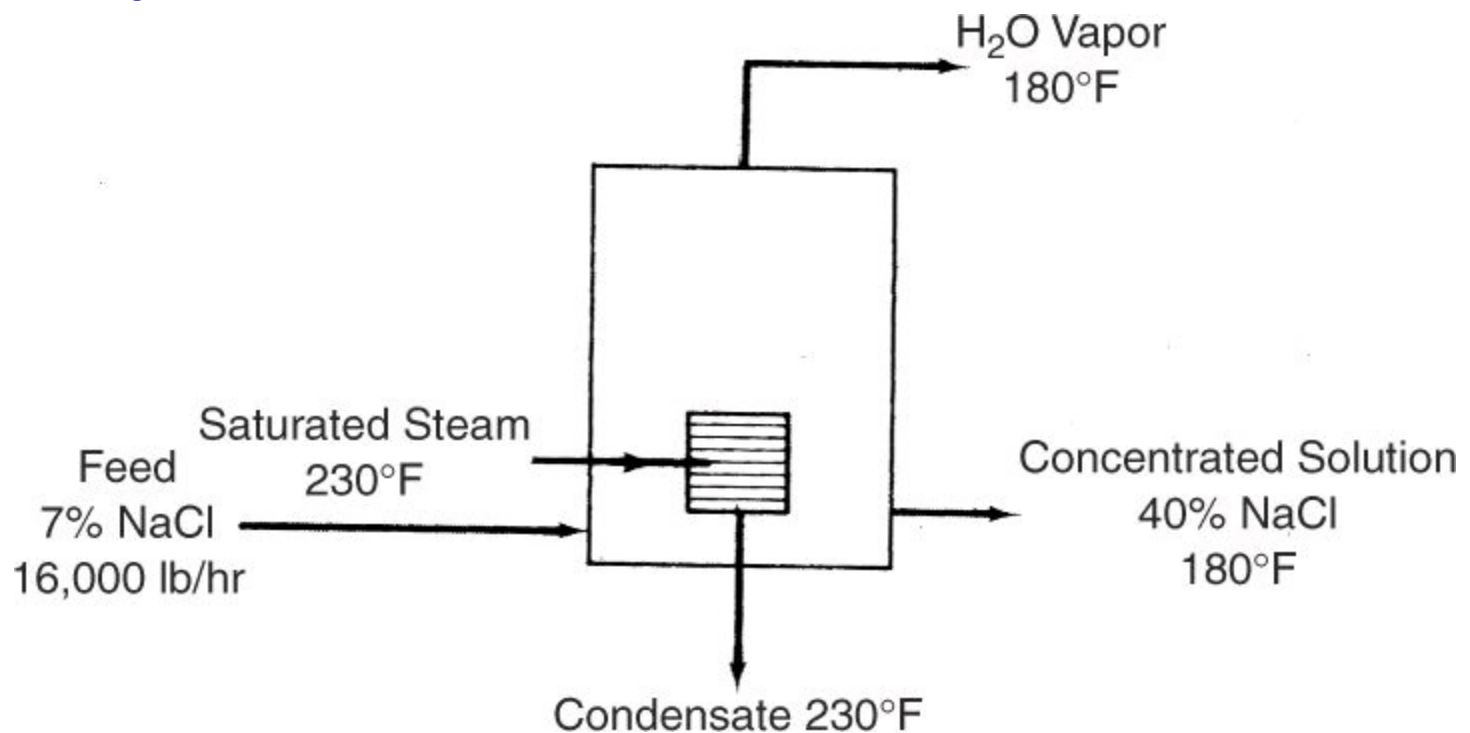

Figure P16.6
16.6. A feed stream of 16,000 lb/hr of 7% by weight NaCl solution is concentrated to a 40% by weight solution in an evaporator. The feed enters the evaporator, where it is heated to 180°F. The water vapor from the solution and the concentrated solution leave at 180°F. Steam at the rate of 15,000 lb/hr enters at 230°F and leaves as condensate at 230°F. See Figure P16.6.